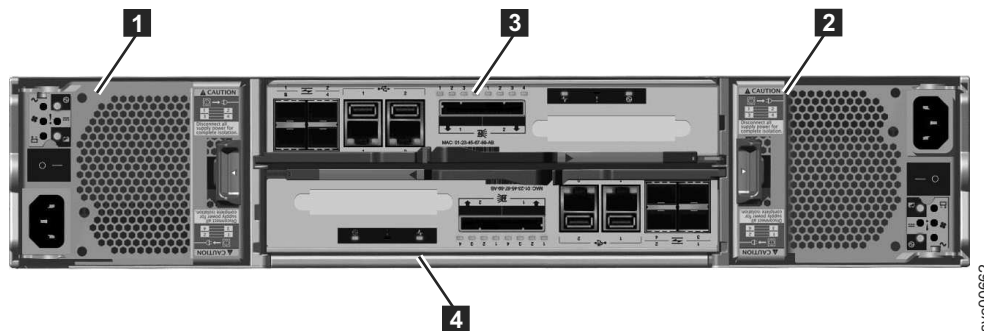

Figure 10. Rear view of a model 2076-112 or a model 2076-124 control enclosure
Figure 10 shows the rear view of a control enclosure and identifies the location of the power supply units and the canisters.
- Two canisters are housed in the middle of the enclosure. Each canister is known as a node canister. The upper canister, as shown in Figure 10, is labelled **3**, and the lower canister is labelled **4**. Canister **3** is top side up, and canister **4** is inverted, or top side down.